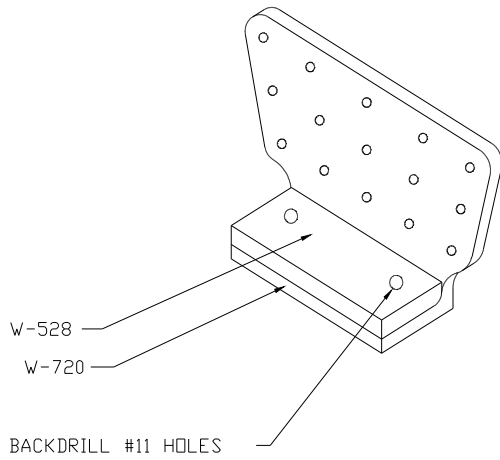

Fig. 6.3.4
- 5) Nest a Radius Shim (W0528) into a Root Attach Bracket (W0720). Backdrill the two #11 holes. Figure 6.3.4.